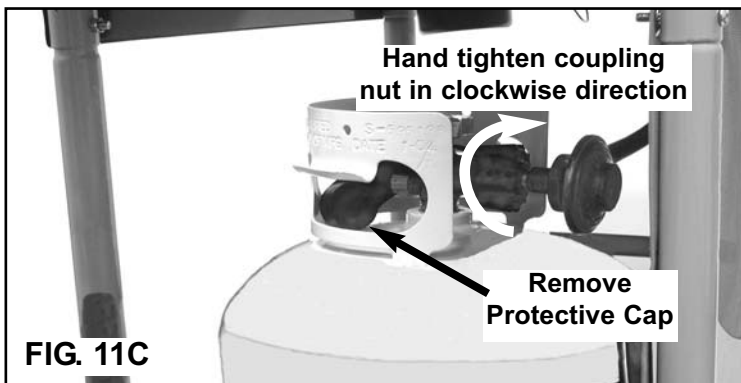

FIG. 11C
- 5) Remove the protective cap from the LP cylinder nozzle. (Save cap for re-capping.) Make sure all control Knobs are turned "OFF". Hold Regulator in a straight line with LP cylinder valve so the connection does not cross thread. Insert Regulator Nipple into the LP cylinder valve. (Fig. 11C) Hand tighten coupling nut in clockwise direction. Do not use tools.